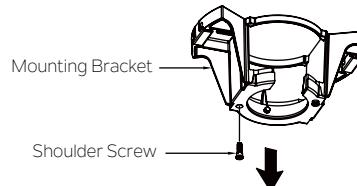

Fig. 11
Step 2. Remove one of the two shoulder screws in the mounting bracket, and keep for use on Page 12 Step 2. Loosen the second shoulder screw without fully removing it. (Fig. 11)